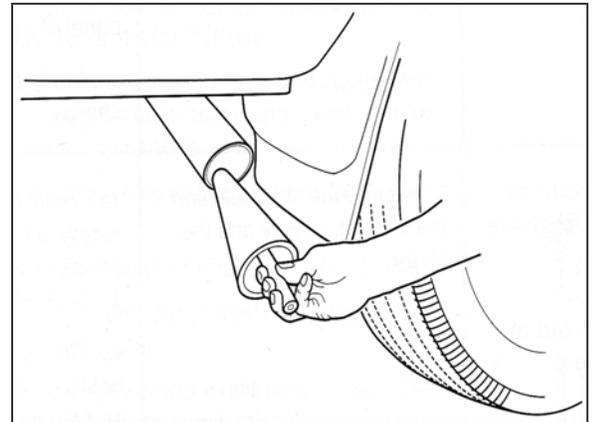

Figure 9
2. Put the vehicle on a lift to expose the underside. With the engine off, simply insert the exhaust adapter cone into the tail pipe of the vehicle being tested (Figure 9). Insert the smoke supply line nozzle into the exhaust cone's hose opening and press the ON / OFF button.